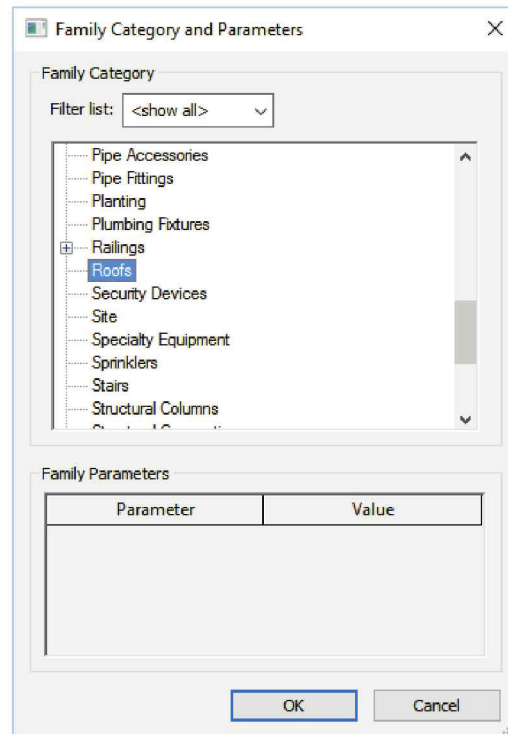

FIGURE 8-6.12
38. Select **Roofs** from the *Family Category* list (Figure 8-6.12).